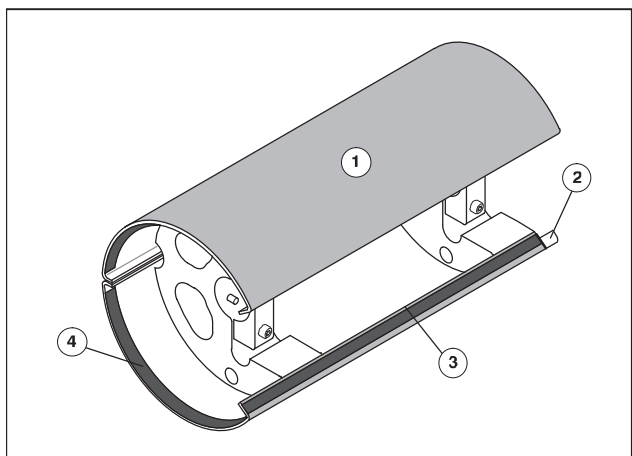

Fig. 20 Super Blue delivery drum, pulling on the net
The Super Blue net (Fig. 20/1) is precut to the right size; the front and rear edges are pressed on the Velcro tape of the base cover. The parts of the net laterally projecting beyond the sheet-metal jackets are pressed on the Velcro strips at the inside of the sheet-metal jackets (Fig. 20/4).
1. Position the press so that the front edge of the Super Blue delivery drum with the recess (Fig. 20/2) is accessible.
3. Press the front edge of the Super Blue net against the Velcro tape of the base cover (Fig. 20/3), then press on well by smoothing down from the center towards D.S. and O.S. (e.g. using a circular brush).
7. Uniformly distribute the Super Blue net on the base cover by smoothing down and fasten at the Velcro tape at the inside of the delivery drum on D.S. (Fig. 20/4) and O.S.
8. At the recess at the front edge of the delivery drum (Fig. 20/2), press on the Super Blue net at the Velcro tape.